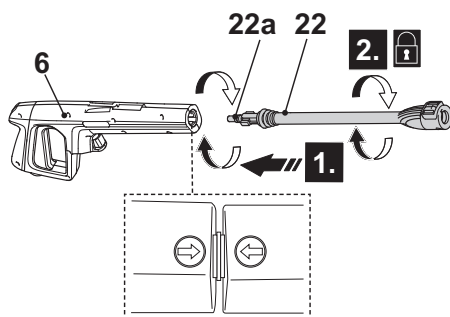

Fig. 14
1. Always attach the extension lance (22) when using the patio brush.
2. Align and insert the tongues (22a) of the extension lance (22) into the grooves of the spray gun (6) connection port (Fig. 14, step 1).
3. Securely fit the extension lance (22) by turning it clockwise to lock it in place (step 2). Ensure the arrow on the spray gun aligns with the arrow on the extension lance.